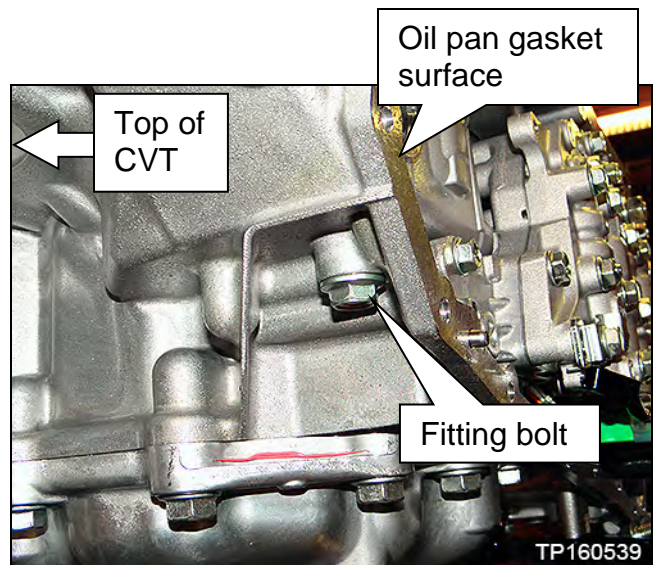

Figure 22C
a. Remove the fitting bolt located above the left rear corner of the oil pan gasket surface (Figure 22C).